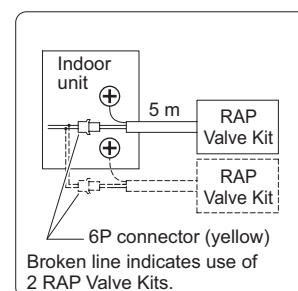

Fig. 2-313
(1) Wiring
- Put the 6P connector from the RAP Valve Kit through the power inlet and connect it to the 6P connector (yellow). (See Fig. 2-313)
(2) Refrigerant Tubing